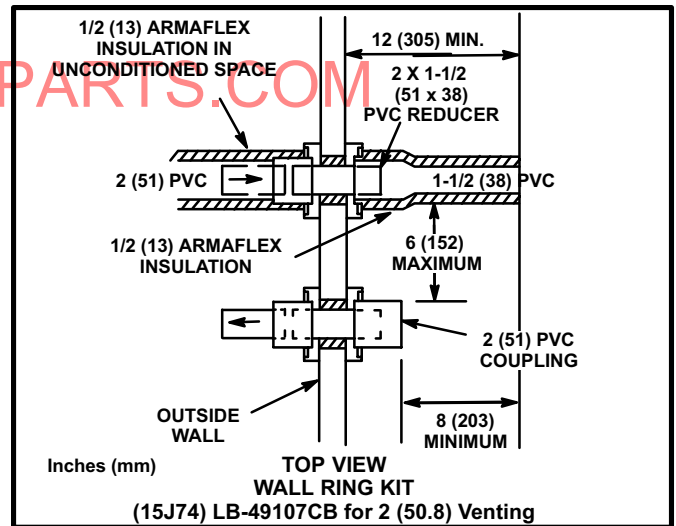

FIGURE 27
- 6 - On field supplied terminations for side wall exits, exhaust piping should extend a minimum of 12" (305mm) beyond the outside wall. Intake piping should be as short as possible. See figure 27.